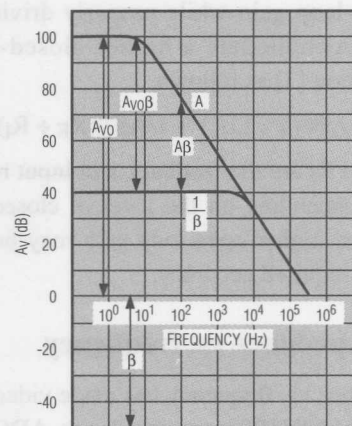

Figure 9. Output impedance generally rises with frequency.
Remember that high loop gain is necessary for low output impedance, according to the equation $R_{OUT} = R_O / (1 + A_{VO}\beta)$, where R_O is the open-loop output impedance and $A_{VO}\beta$ is the loop gain. $A_{VO}\beta$ decreases as you approach the op amp's unity-gain crossover frequency, leading to increased output impedance (Figure 9). Higher output impedance makes it difficult for the amplifier to handle current spikes from the ADC.
The Bode diagram of Figure 9 also depicts, for the noninverting circuit, the relationships between open-loop gain (A), the feedback-attenuation factor (β), noise gain ($1/\beta$), and loop gain ($A\beta$, or $A_{VO}\beta$ at DC) as functions of frequency. Figure 9 shows the variation of open-loop gain vs. frequency for a typical operational